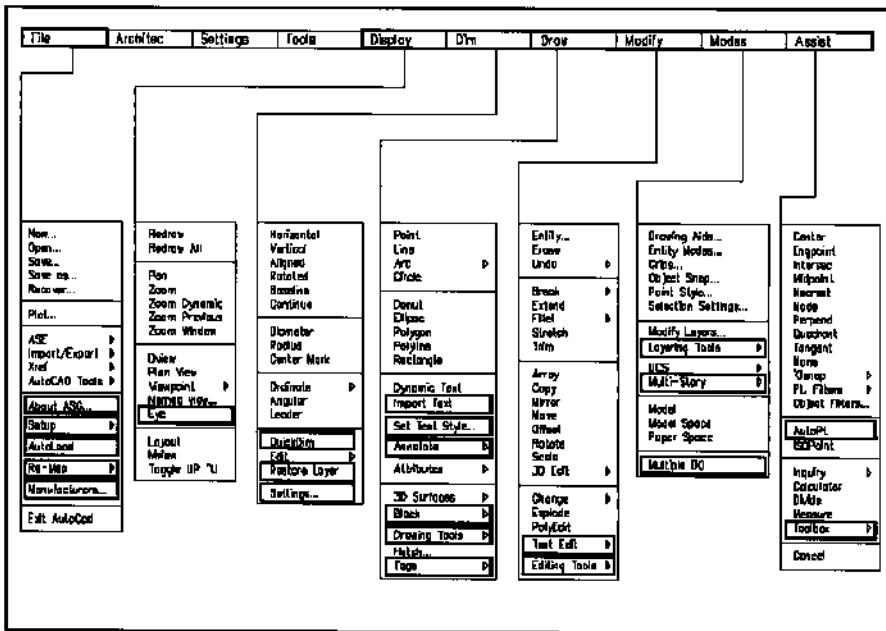

Figure 15.
1. The original seven pull-down menus expand to ten when specific application menus, such as Architectural, Structural, or 3D Piping are loaded. We will use the ASG Architectural application for this tutorial. The File menu item retains its location while the remaining items Display, Dim, Draw, Modify, Modes, and Assist are repositioned. Each of the seven original pull-down menus contains basic AutoCAD commands, as well as specific ASG Core routines with additional cascading levels. An overview of ASG Core commands (with the AutoCAD commands) is shown in Figure 15.